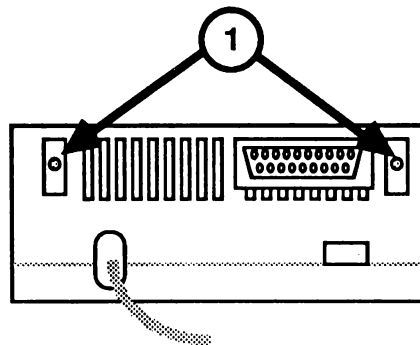

FIGURE 2
4. Orient the drive so that the back is facing you and remove the two Phillips screws (Figure 2, #1).